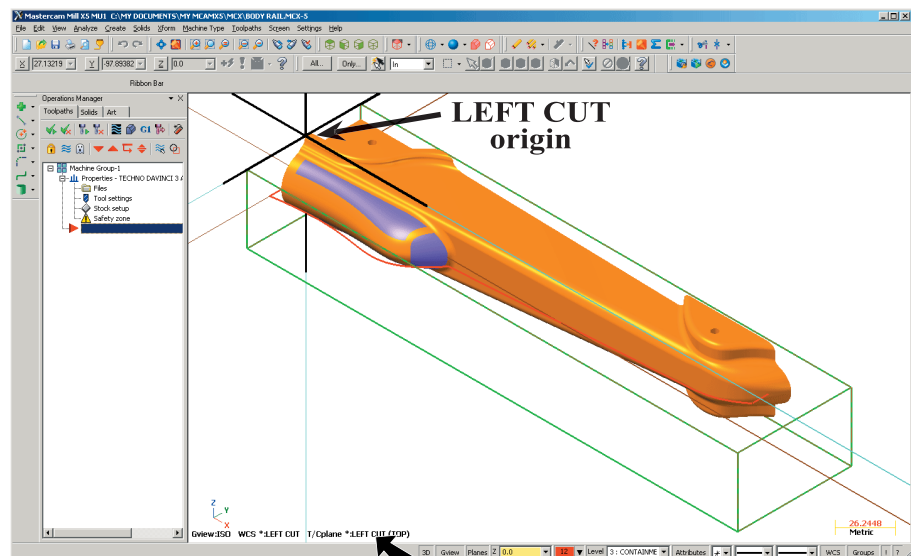

Fig. 3
Step 1. In the bottom left corner of the display, make sure the Tool Plane (T/Cplane) is **LEFT CUT**, **Fig. 3**.